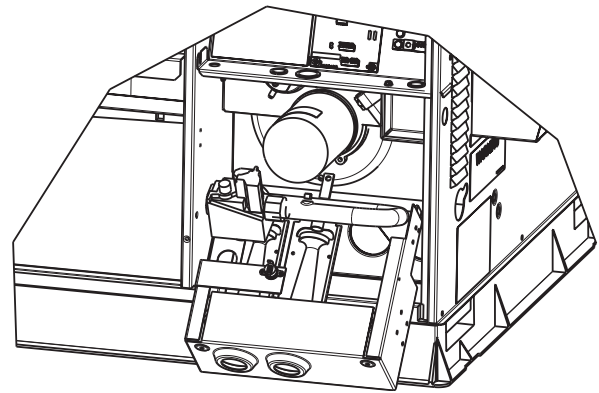

Fig. 22 - Burner Rack Removed
3. Slide the assembly out of the unit. (See Fig. 22). Clean the blower wheel. If additional cleaning is required, continue with Steps 4 and 5.